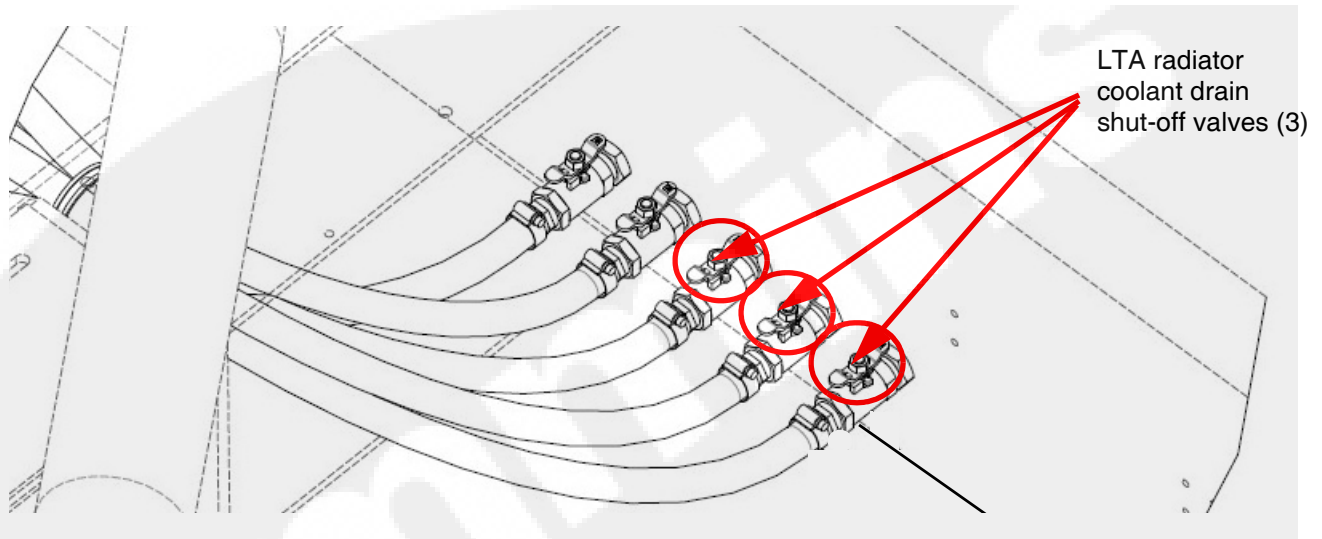

Figure 7-15 LTA radiator coolant drain shut-off valves (GenSet right side)
2. As shown in Figure 7-15, check that the LTA radiator coolant shut-off drain valves are closed. Turn the tee handle so that it is perpendicular to the drain line. The LTA shut-off valves are located *directly behind the LTA drain holes* on the right side of the GenSet.